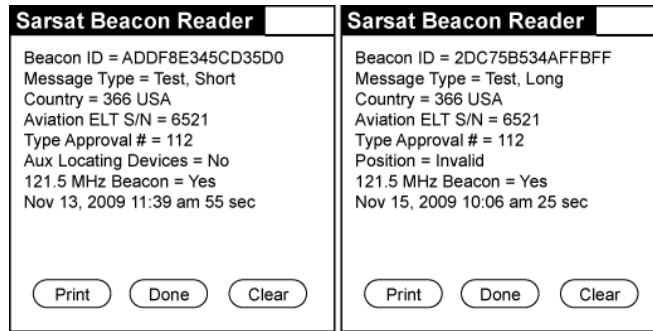

Figure 8 Short & Long 406 MHz Message Examples
- 3) Perform a self-test by placing the control switch in the SELF-TEST position. Once the LED blinks once, release the switch. Do not hold the switch in SELF-TEST position for longer than 1 second. Example results are shown in Figure 8 Short & Long 406 MHz Message Examples. Actual messages will vary depending on the protocol and information programmed into the ELT.